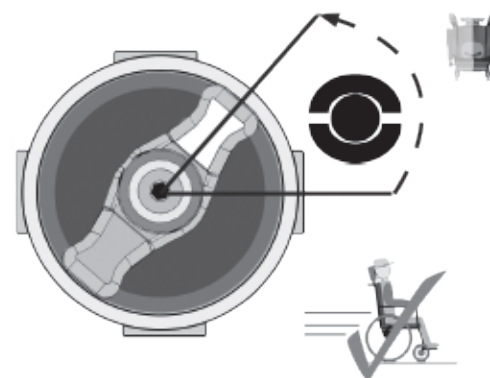

Fig. 5.2
1. For driving the wheelchair. (Fig. 5.2).